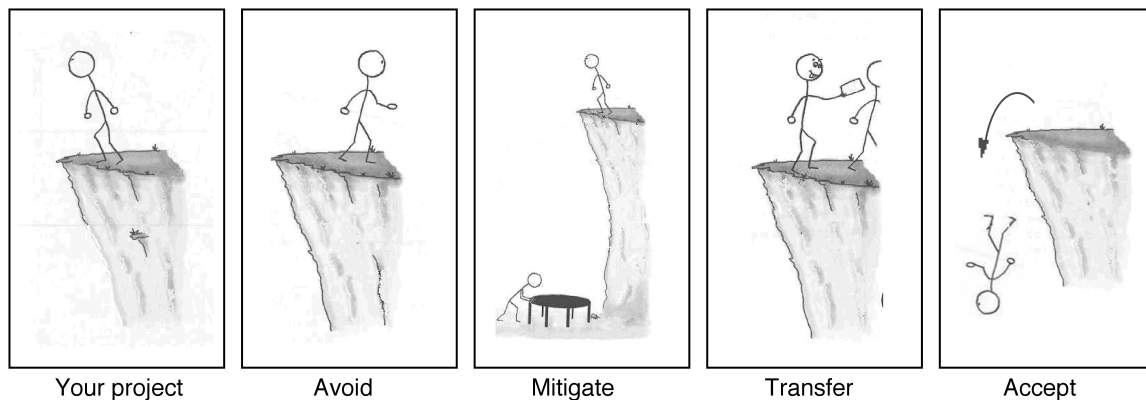

Figure 12.22: Potential ways to handle risk in a project.
If your project requires that you stand on the edge of a cliff, then there's a risk that you could fall (Figure 12.22). If it's very windy out or if the ground is slippery and uneven, then falling is more likely.
1. **Avoid:** The best thing that you can do with a risk is to avoid it. If you can prevent it from happening, it definitely won't hurt your project. The easiest way to avoid this risk is to walk away from the cliff (Figure 12.22), but that may not be an option on this project.
2. **Mitigate:** If you can't avoid the risk, you can mitigate it. This means taking some sort of action that will cause it to do as little damage to your project as possible (Figure 12.22).
3. **Transfer:** One effective way to deal with a risk is to pay someone else to accept it for you (Figure 12.22). The most common way to do this is to buy insurance.
4. **Accept:** When you can't avoid, mitigate, or transfer a risk, then you have to accept it (Figure 12.22). But even when you accept a risk, at least you've looked at the alternatives and you know what will happen if it occurs. If you can't avoid the risk, and there's nothing you can do to reduce its impact, then accepting it is your only choice.